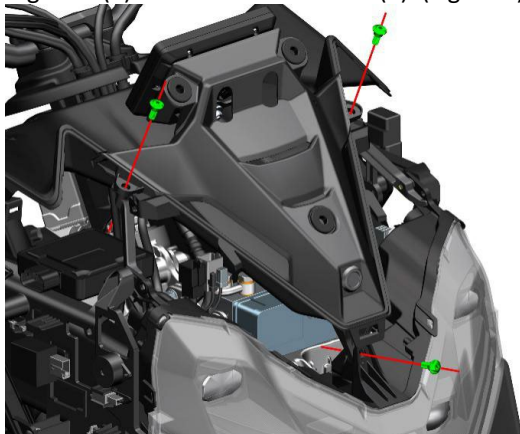

Figure 1
a. Use a T25 Torx wrench to remove the three bolts, then disconnect the instrument wiring and retaining clips before removing the instrument bracket. (Figure 1)